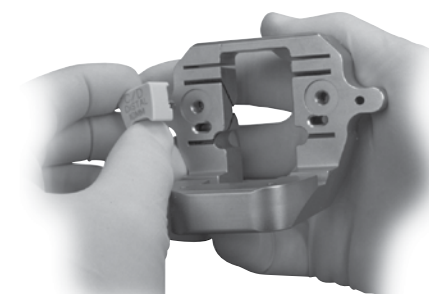

Fig. 41
- If Distal Femoral Augment Provisionals were used on the Femoral Provisional/cutting guide, remove and attach to the RH Knee Notch/Chamfer Guide (Fig. 41).